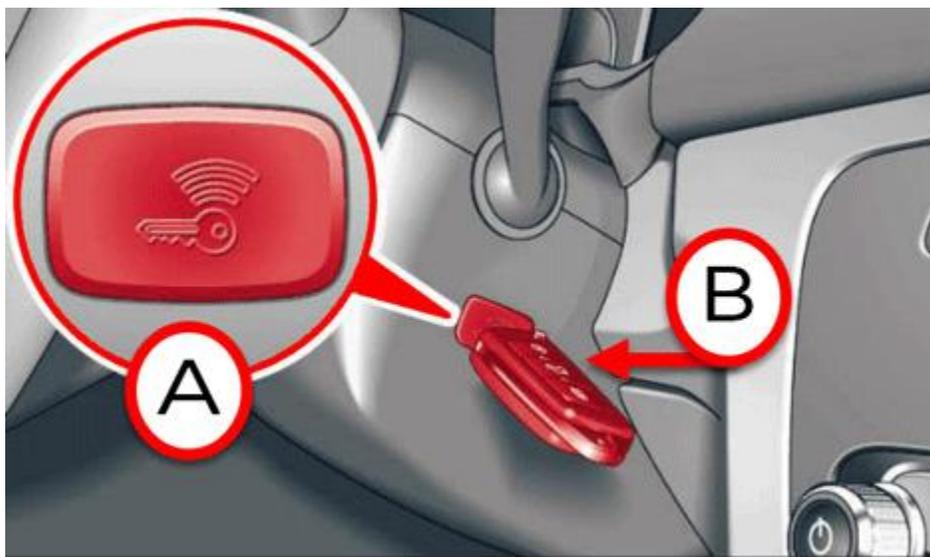

Figure 1. A: Emergency coil reader location. B: Hold top of key against coil.
1. Ensure the key being adapted to the vehicle is properly aligned to the reader coil (Figure 1):